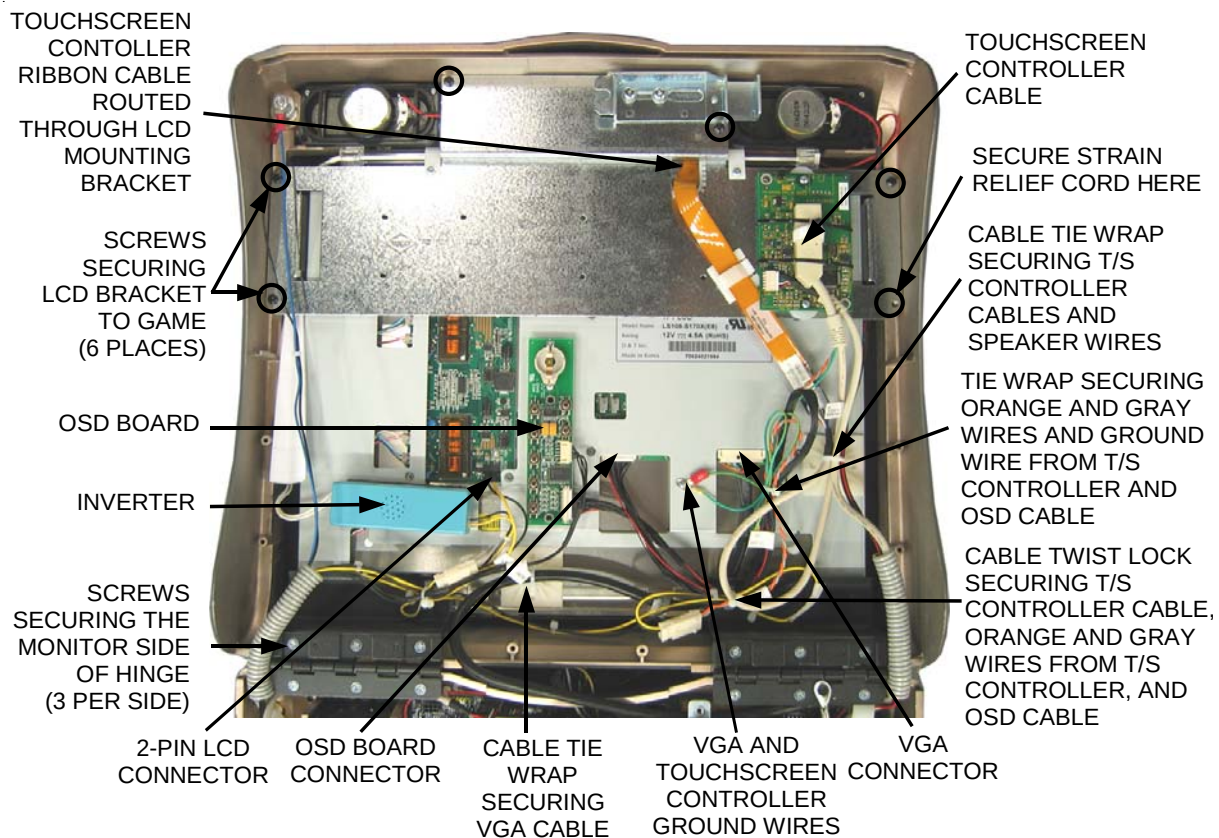

FIGURE 4 – FORESEESON MONITOR IN 17" ION COUNTERTOP GAME
3. *Very carefully* cut the tie wraps securing the touchscreen controller cable to the touchscreen controller. Then, disconnect the cable from the touchscreen controller. See Figure 4.
5. Cut the tie wrap securing the touchscreen controller cables and speaker wires on the back of the monitor (see Figure 4).
6. Cut the tie wrap securing the orange and gray wires and ground wire from the touchscreen controller and the OSD cable. See Figure 4.
7. Remove the touchscreen controller cable, the orange and gray wires (from the touchscreen controller) and the OSD board cable from the cable twist lock. See Figure 4.
9. Disconnect the 2-pin LCD connector, the OSD connector and the VGA connector from the back of the monitor. See Figure 4.
10. Remove the screw and washer securing the VGA and touchscreen controller ground wires to the back of the monitor. See Figure 4.
11. Remove the OSD board and inverter from the Velcro attached to the back side of the monitor and set them aside. See Figure 4.
12. Place something in front of the game to brace the bezel once the strain relief cord is undone, then remove the screw and washer securing the strain relief cord. See Figure 4.
13. Remove the remaining 5 screws fastening the LCD mounting bracket to the game. See Figure 4.
21. Route the touchscreen controller cable through the hole in the LCD mounting bracket (Figure 4).
22. Fasten the strain relief cord under the LCD mounting bracket screw designated in Figure 4. Replace the remaining 5 screws securing the mounting bracket to the bezel. See Figure 4.
23. Tighten the 3 screws per hinge that were loosened during removal of your old monitor. See Figure 4. Make sure the spacers beneath the hinges are aligned correctly as you tighten the screws.
25. Install the 2 existing nylon spacers on the standoffs where the touchscreen controller will be mounted (see Figure 4). If your touchscreen controller did not have nylon spacers, install the 2 provided spacers. Then, secure the touchscreen controller to the standoffs on the LCD mounting bracket using the existing screws.
26. Secure the ribbon cable from the touchscreen controller in the cable clamp on the LCD mounting bracket. See Figure 4.
28. Connect the 2-pin LCD connector to the back of the monitor. See Figure 4.
29. Connect the OSD connector to the monitor. See Figure 4.
30. Connect the VGA monitor connector to the monitor. See Figure 4.
31. Replace the screw and washer securing the VGA and touchscreen controller ground wires to the back of the monitor. See Figure 4.